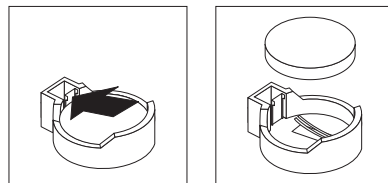

Figure 21. Removing the battery
- a. Use a fingernail to press the top of the battery clip away from the battery (see Figure 21). The battery pops up when released.